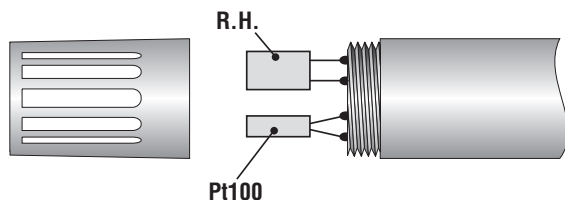

Fig. 7
3. Unsolder the Pt100 sensor (the narrowest one) and in place of it, solder the output wires or those of a Pt100 simulator or of a precision resistance, as shown in figures 7 and 8. Then wait a few seconds for the junction to get cold.